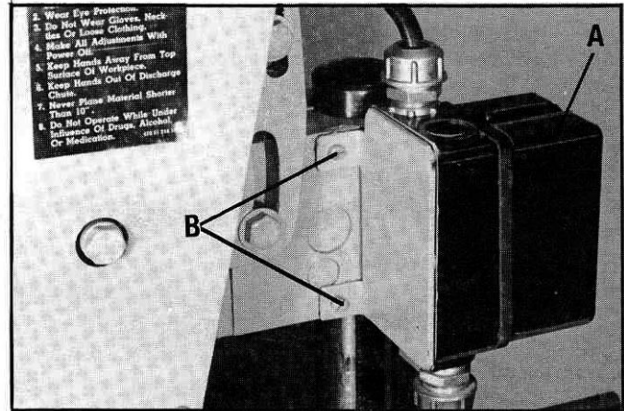

Fig. 10
If you purchased the three phase machine, it is necessary to assemble the switch and switch plate assembly (A) to the front left hand side of the planer, as shown in Fig. 10, using the two screws (B).